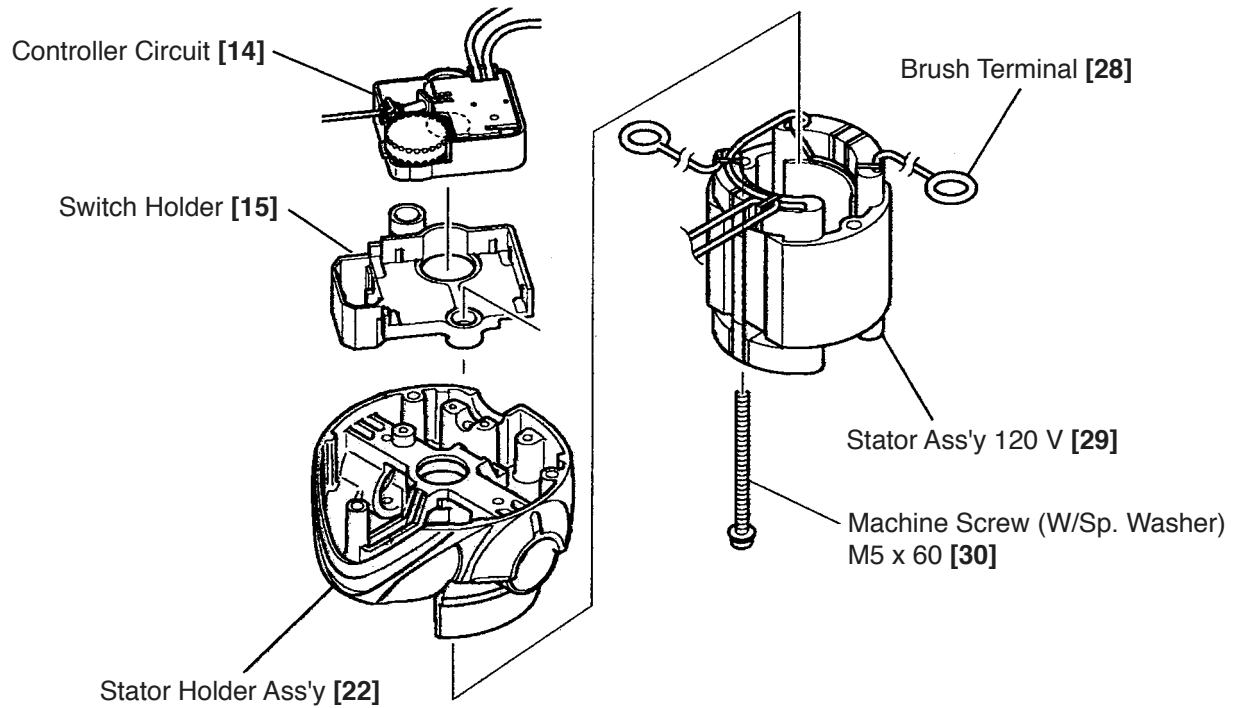

Fig. 8
(5) Disassembly of the Stator Ass'y 120 V [29] (Fig. 8)